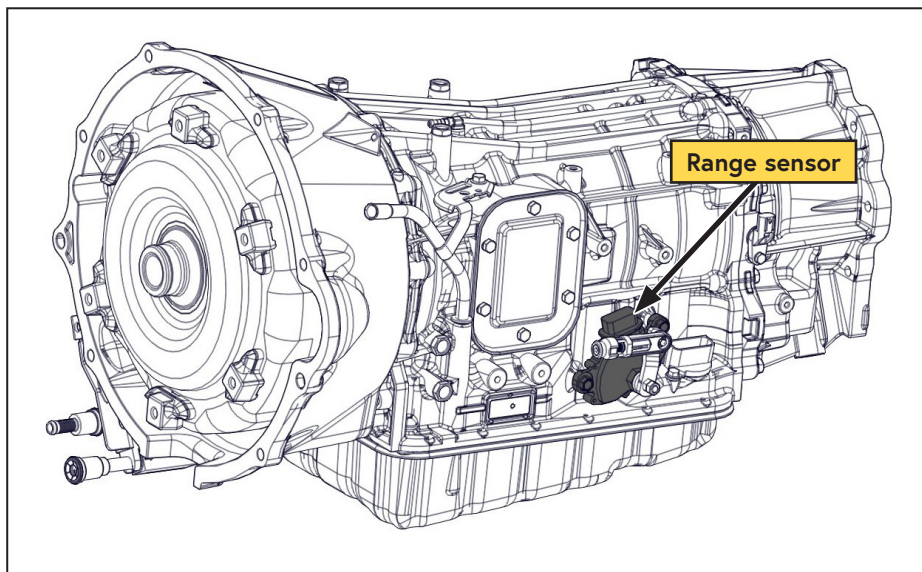

Figure 57 — Locate range sensor
- ☐ Locate the 10 pin connector plugged into the transmission range sensor on the driver side of the transmission (Figure 57).